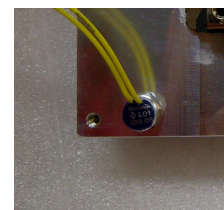

Figure 4
9. Disconnect the two wires of the thermal sensor mounted on the output rectifier diode heatsink from connector **J5** of the main board (see **Figure 3**) and check the thermal sensor using Volt-Ohmmeter in ohm mode, value shall be 0(zero) Ohms (see **Figure 4**)